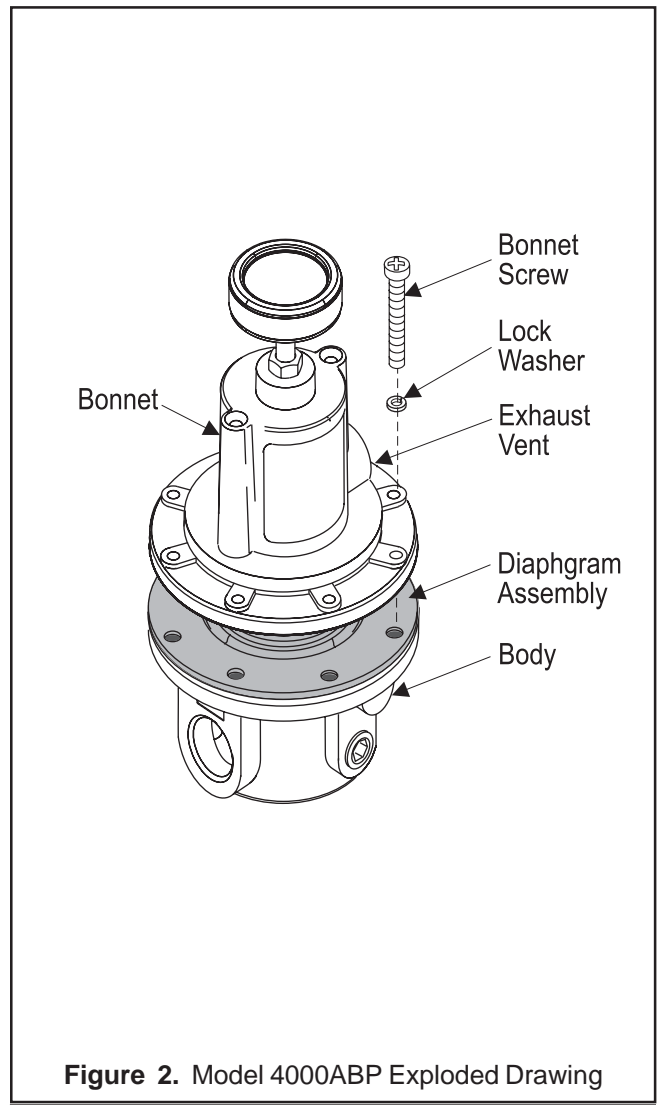

Figure 2. Model 4000ABP Exploded Drawing
3. Remove the six Screws from the Bonnet Assembly. For more information, see Figure 2.
6. Carefully reassemble the unit. Ensure that the Vent in the Bonnet is clear. For more information, see Figure 2.